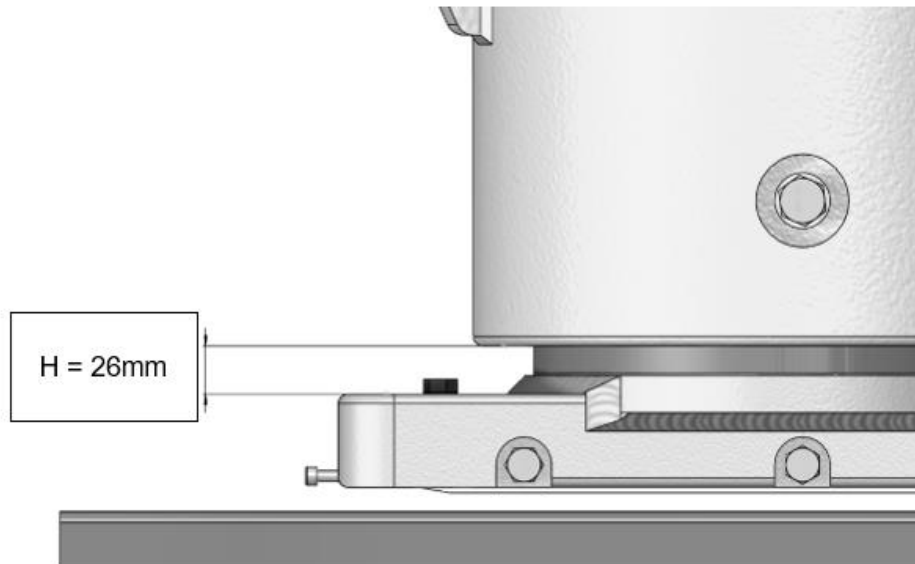

Fig. 2.12
4. Check that the clearance is correctly adjusted by measuring dimension H (distance between the lower side of the body and the upper side of the pad holder) see Fig. 2.12. If necessary, readjust the screw **10**.